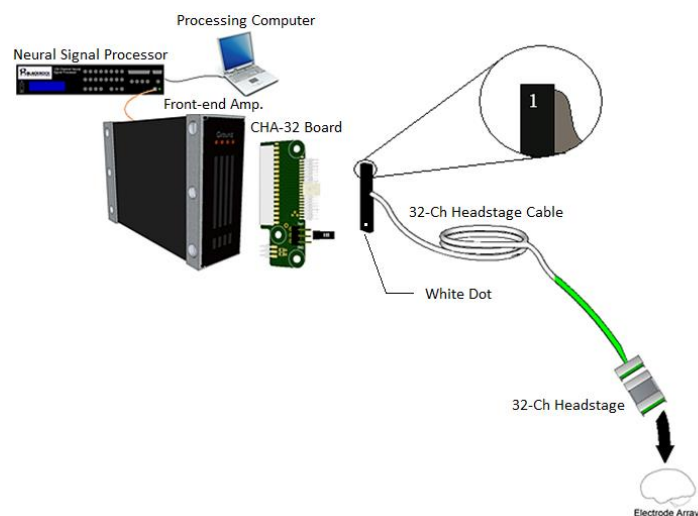

Figure 3-1: Assembly Set-Up
2. Plug the Samtec connector (the black female connector) on the cable to the CHA-32 Board. Be careful on the orientation, the “1” indicated on the connector should match with the “1” indicated on the CHA-32 Board as shown in Figure 3-1.